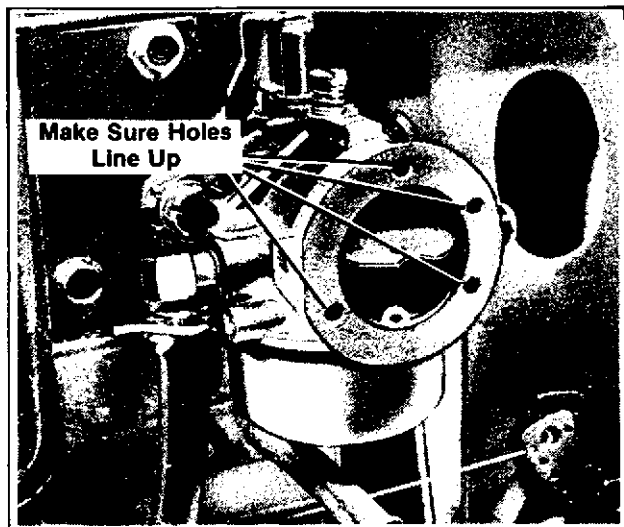

Figure 8-25. Carburetor Air Horn Gasket Installed
1. Attach a new adhesive backed air horn gasket to carburetor. Peel backing off gasket then stick gasket to carburetor making sure that holes in gasket align properly with holes in carburetor (see Figure 8-25).